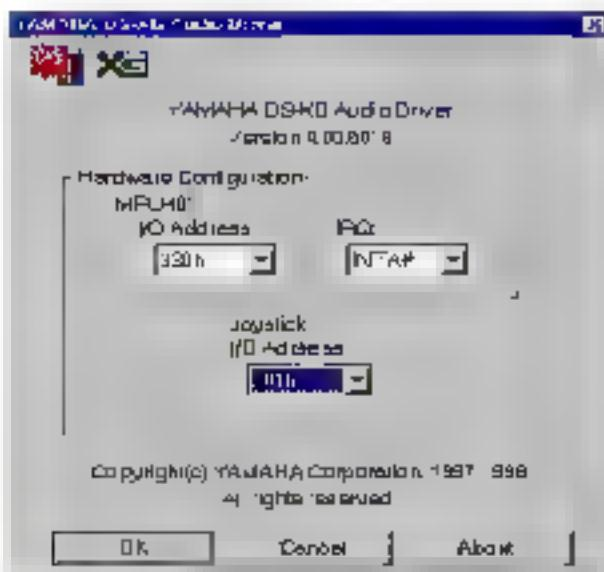

Figure 2-4 The YAMAHA DS-XG Audio Driver window
10) Windows NT will now copy the necessary files to your computer. When the YAMAHA DS-XG Audio Driver window appears, verify that the MPU401 I/O address, IRQ, PMI/O address and Joystick I/O address settings are correct as shown in Figure 2-4 below. Click the OK button to continue.